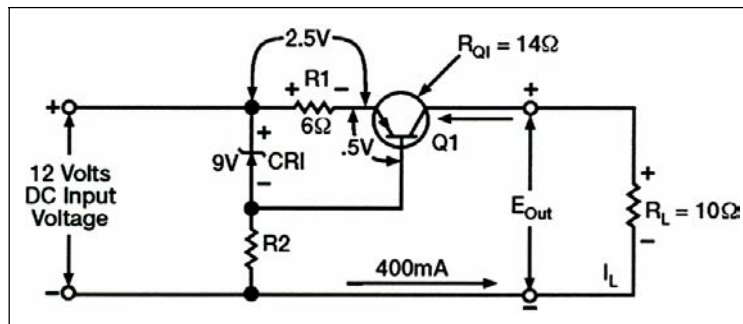

Figure 4-43. Current Voltage Regulator (With a Decrease in R_L)
4-119. Knowing about the basic current regulating circuitry will help you understand how the various components work to maintain the constant 400-milliamper output. Remember a decrease in load resistance causes a corresponding increase in current flow. Figure 4-43 shows that the load resistance R_L has dropped from 15 ohms to 10 ohms. This results in a larger voltage drop across R1 because of the increased current flow. The voltage drop has increased from 2.4 volts to 2.5 volts. Of course, the voltage drop across CR1 remains constant at 9 volts due to its regulating ability. Because of the increased voltage drop across R1, the forward bias on Q1 is now 0.5 volts. Since the forward bias of Q1 has decreased, the resistance of the transistor increases from 9 ohms to 14 ohms. Notice that the 5-ohm increase in resistance across the transistor corresponds to the 5-ohm decrease in the load resistance. Therefore, the total resistance around the outside loop of the circuit remains constant. Since the circuit is a current regulator, you know that output voltages will vary as the regulator maintains a constant current output. In Figure 4-43, the voltage output is reduced to 4 volts, which is computed by multiplying current (I) times resistance (R) (400 mA x 10 ohms = 4 volts).